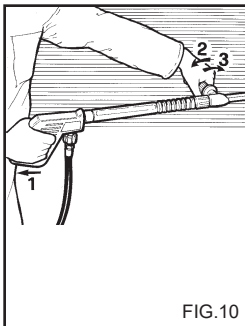

FIG.10
**USE OF THE DOUBLE LANCE (fig. 10)**